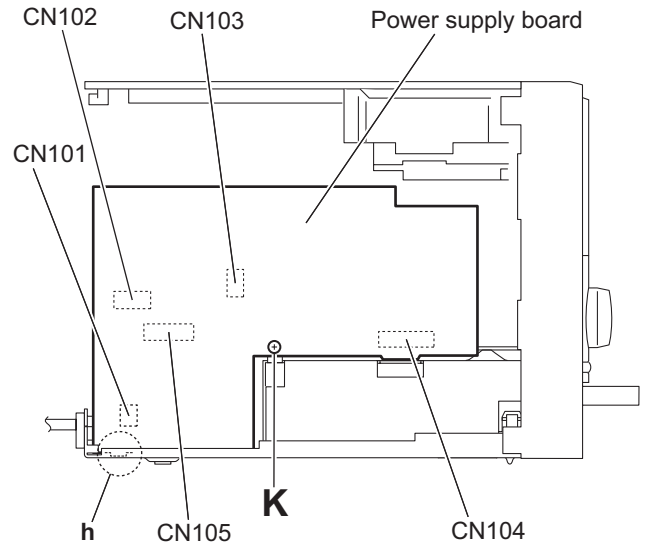

Fig.17
3.1.9 Removing the power supply board (See Fig.17)
Remove the power supply board as required. (See Fig.17.)